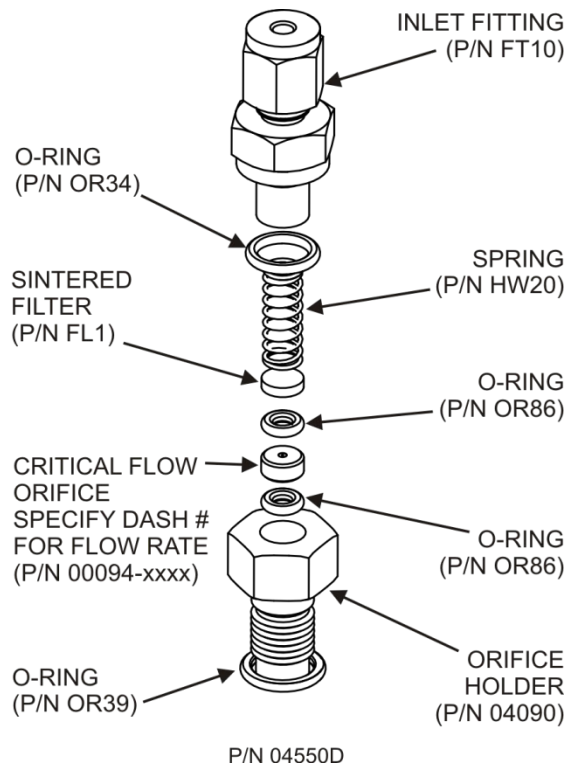

Figure 5-8. Critical Flow Orifice Assembly
8. Using a new sintered filter and O-rings, reassemble the parts as shown in Figure 5-8.